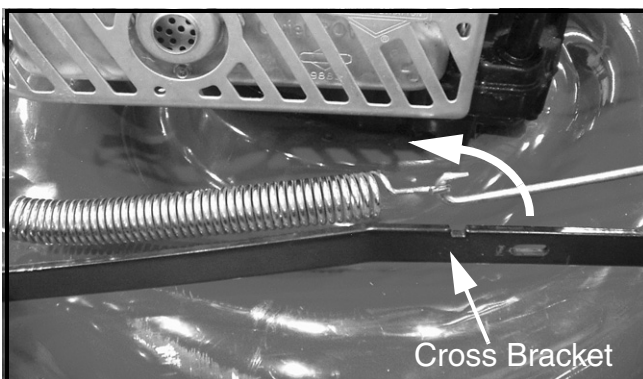

FIGURE 3
7. Using a spring puller P/N 732-0571, or other suitable tool, carefully unhook the height adjust extension spring from the cross bracket. See Figure 3.